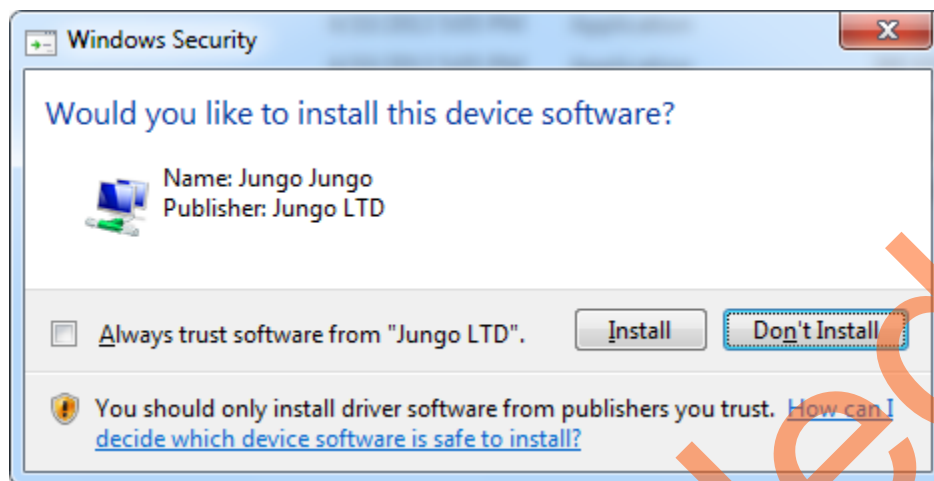

Figure 58 • Jungo Driver Installation
3. Click **Install** if the window is displayed as shown in Figure 58.